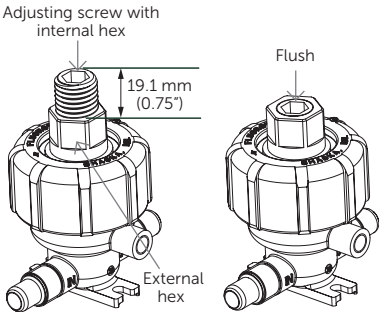

Figure 3.
12. Place the diaphragm preload tool (T2) onto the retainer nut (P11) and screw on the outer cap (P9) to hold it in place. (See Figure 3.)
7. Secure the diaphragm preload tool (T2) in place with the outer cap (P9). (See Figure 3.)
8. With an adjustable wrench (S6), hold the diaphragm preload tool (T2) external hex from rotating and turn the internal hex on top of the diaphragm preload tool (T2) with the $\frac{1}{2}$ " allen wrench (S7) clockwise until it is flush with the top surface of the tool. (See Figure 3.)